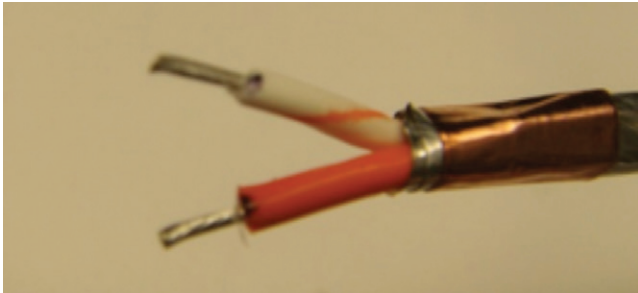

Figure 22: Stripping primary
15. Using 24-gauge hand strippers, strip each primary (Figure 22). If necessary, re-tin the primary ends.